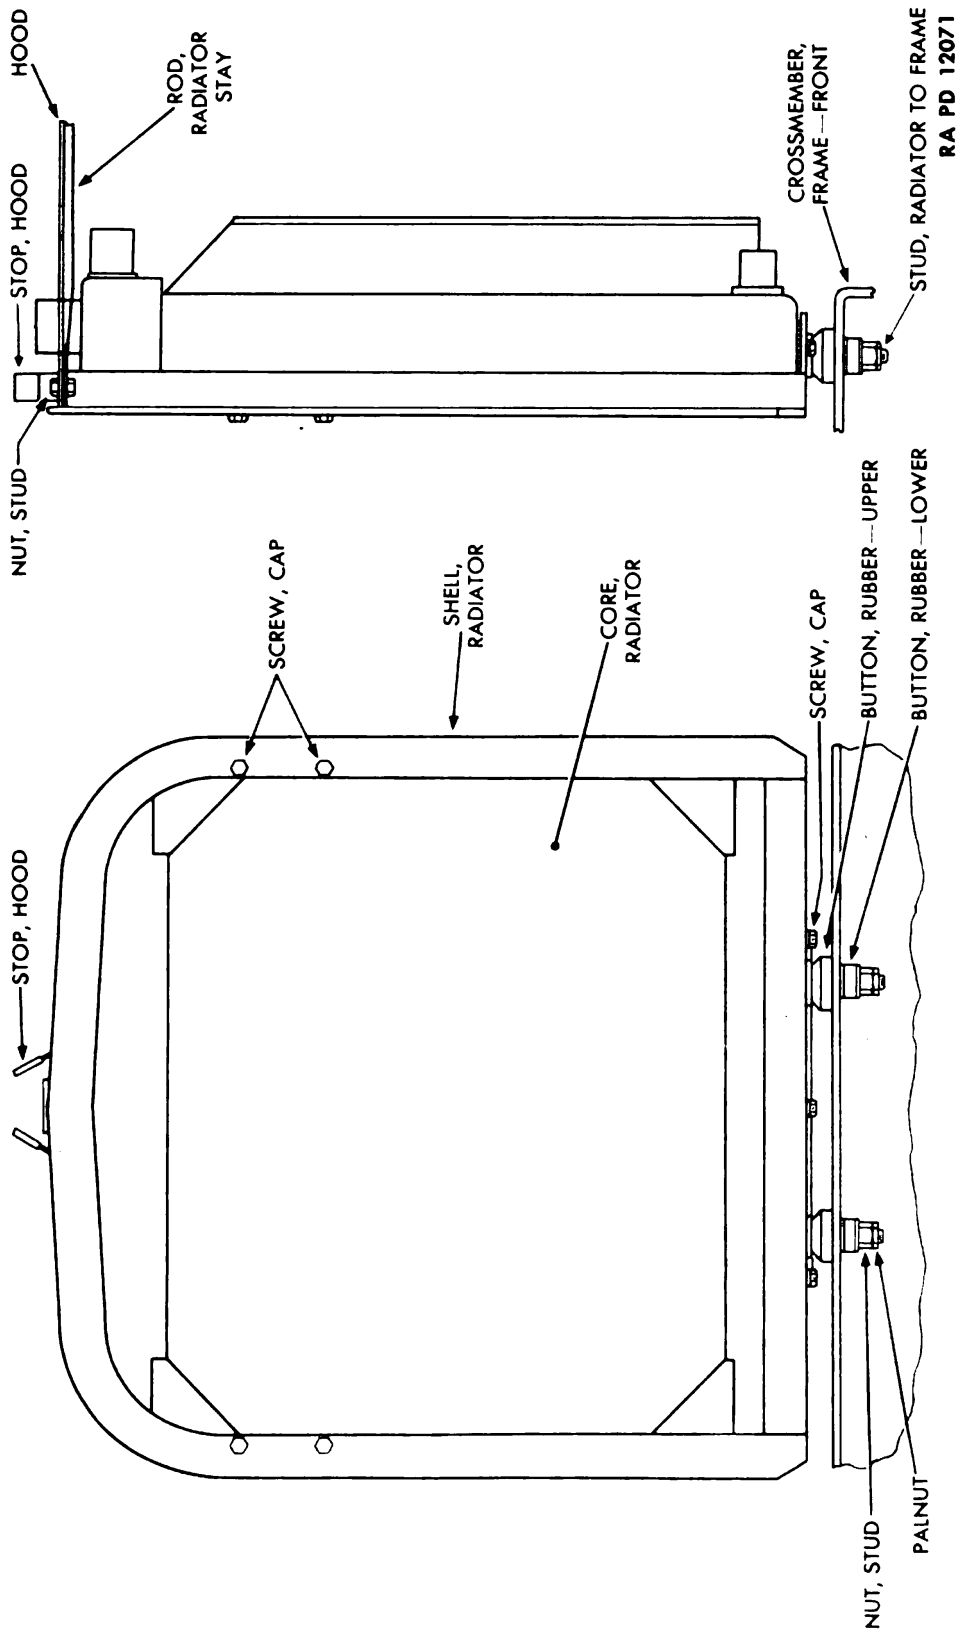

Figure 119—Diagram of Radiator Installation (Kenworth)
- (a) Pull off 2 radiator core mounting pads from the radiator to frame studs (fig. 119).
- (b) Remove radiator filler cap (fig. 119).
bracket to radiator shell (fig. 119). Lift the 2 head lamp brackets from radiator shell.
(e) Remove the 10 radiator shell bolts, nuts, and lock washers holding radiator shell and radiator fan shroud to radiator core (fig. 119). Lift radiator shell assembly from radiator core assembly.
(f) Cut radiator stay rod bracket rivet and the hood hinge rod bracket rivet (fig. 119). Lift the radiator stay rod bracket and hood hinge rod bracket from radiator shell assembly.
(g) Melt solder securing radiator overflow pipe to upper water tank (fig. 119). Lift fan shroud and radiator overflow pipe from radiator shell.
(h) Remove the 2 radiator outlet pipe cap screws and lock washers (fig. 119). Lift radiator outlet pipe and gasket from lower water tank.
(a) *Assemble Radiator Core Mounting Pads.* Push the 2 radiator core mounting pads onto radiator to frame studs (fig. 119).
(b) *Assemble Radiator Water Outlet Pipe.* Using a new radiator outlet pipe gasket, install radiator water outlet pipe on the radiator (fig. 119). Install the 2 radiator water outlet pipe cap screws and lock washers. **NOTE:** Short cap screw goes in flange of pipe; long cap screw goes through center of pipe.
(d) Assemble Brackets to Radiator Shell. Rivet radiator stay rod bracket and radiator hood hinge rod bracket to the radiator shell (fig. 119).
(e) Assemble Radiator Shell to Radiator Core. Place radiator core and fan shroud assembly in place in radiator shell. Install and tighten the 10 bolts, nuts, and lock washers holding radiator shell and radiator fan shroud to radiator core (fig. 119).
(g) Assemble Head Lamp Brackets to Radiator Shell. Install right and left head lamp brackets onto radiator shell. Secure each with the 2 head lamp bracket stud nuts and lock washers (fig. 119).
(h) Install Radiator Filler Cap (fig. 119).